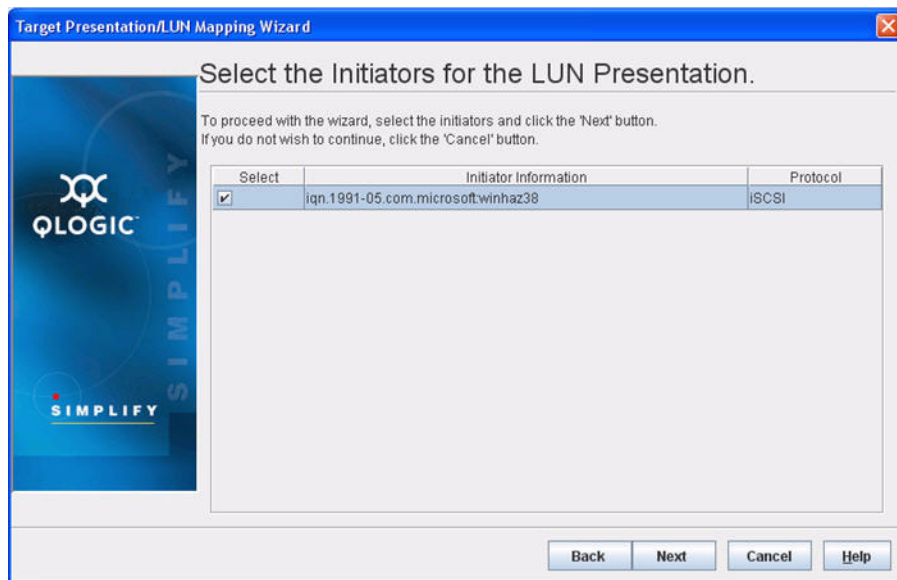

**Figure 4-16 Target Presentation/LUN Mapping Wizard - Select the Initiators**
4. Select the check box next to the description of the initiators you want the LUNS mapped to, as shown in Figure 4-16.